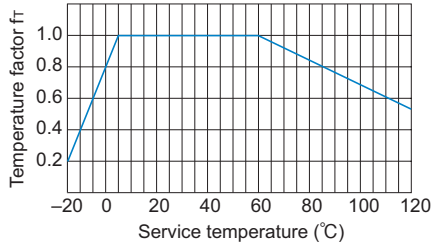

Fig.2 Temperature Factor
If the temperature of the lead screw nut exceeds the normal temperature range, the seizure resistance of the nut and the strength of the material will decrease. Therefore, it is necessary to multiply the dynamic permissible torque (T) and the dynamic permissible thrust (F) by the corresponding temperature factor indicated in Fig.2. Accordingly, when selecting a lead screw nut, the following equations need to be met in terms of its strength.
- f_r : Temperature factor (see Fig.2)
- F : Dynamic permissible thrust (N)
- P_F : Axial load (N)